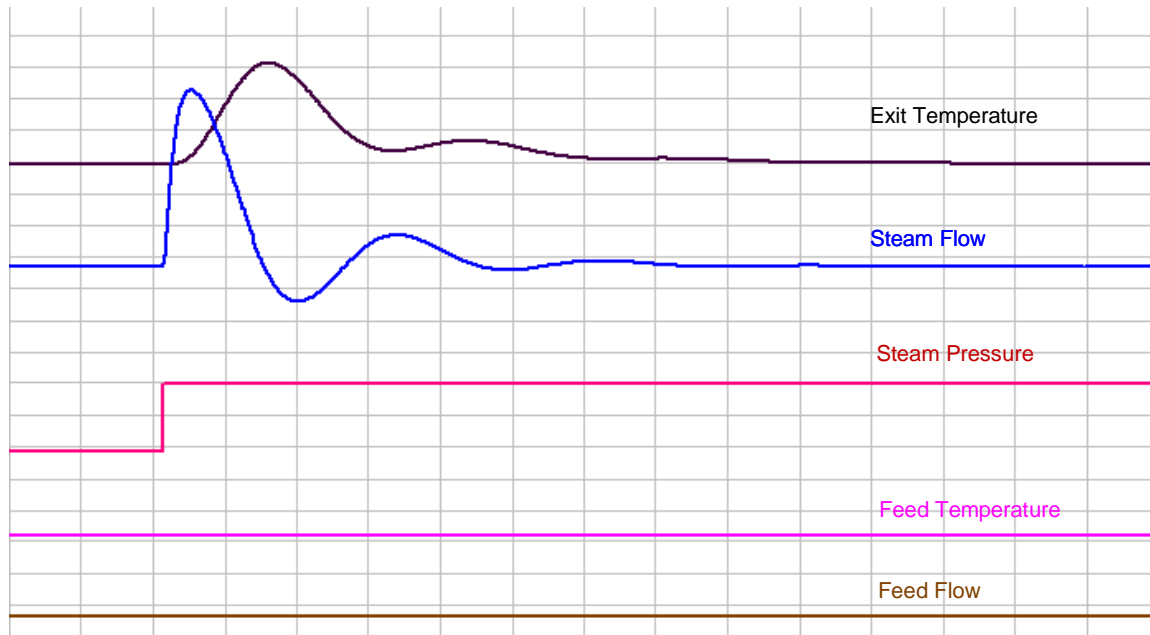
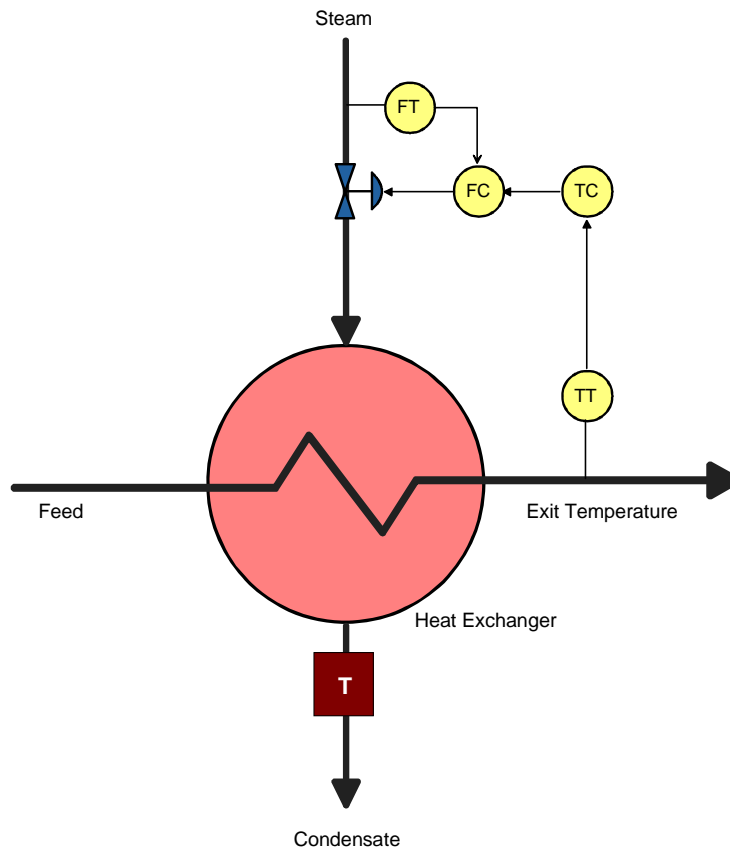
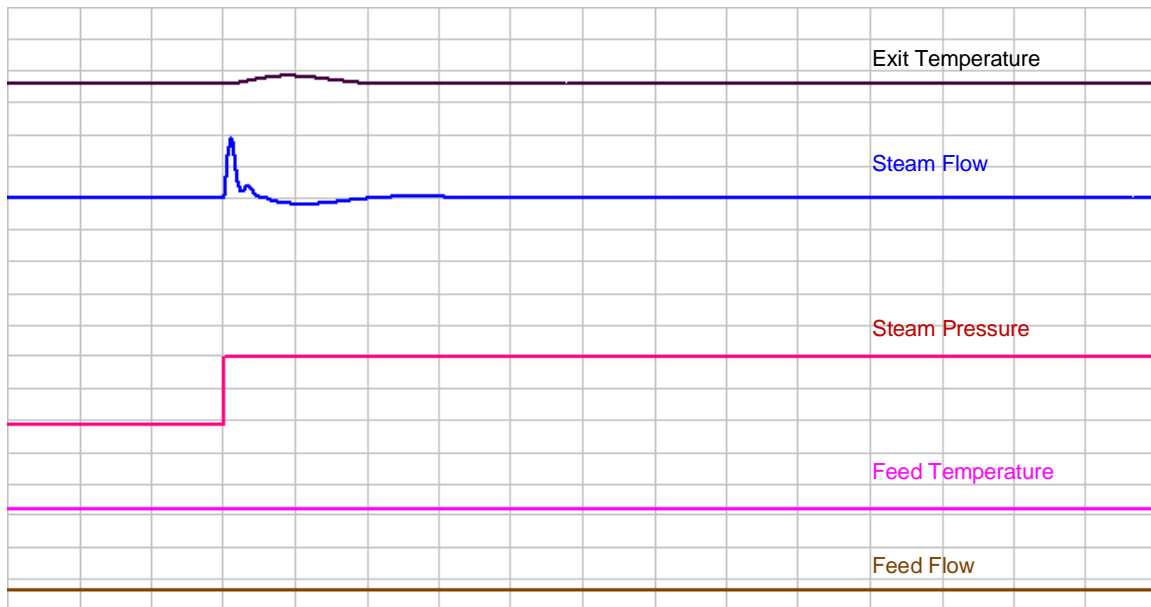

Figure 2 Single-Loop Response to Steam Pressure Change
Figure 3 Heat Exchanger Cascade Control
Figure 4 Cascade Response to Steam Pressure Change
The most common variable used for secondary control is the manipulated variable already being used by the single loop controller. In the heat exchanger example, steam flow is the manipulated variable. As shown in Figure 2, an increase in steam pressure causes an increase in steam flow. The increase in steam flow will eventually cause an increase in outlet temperature that must be corrected by the temperature controller. As the controller throttles the steam valve to compensate for the increase in steam pressure, the steam flow is returned to its original value as the temperature is returned to setpoint.
Figure 3 shows a flow controller (FC) in cascade with the temperature controller (TC). The flow controller manipulates the valve to control the steam flow at a setpoint manipulated by the temperature controller. Since steam flow responds rapidly to changes in pressure and valve position, the flow controller can correct for a change in steam pressure before it has a chance to disturb the exit temperature. Figure 4 shows the same response as Figure 2 but with cascade control implemented. It shows the dramatic improvement that is possible when using cascade control to isolate the exit temperature from steam changes.